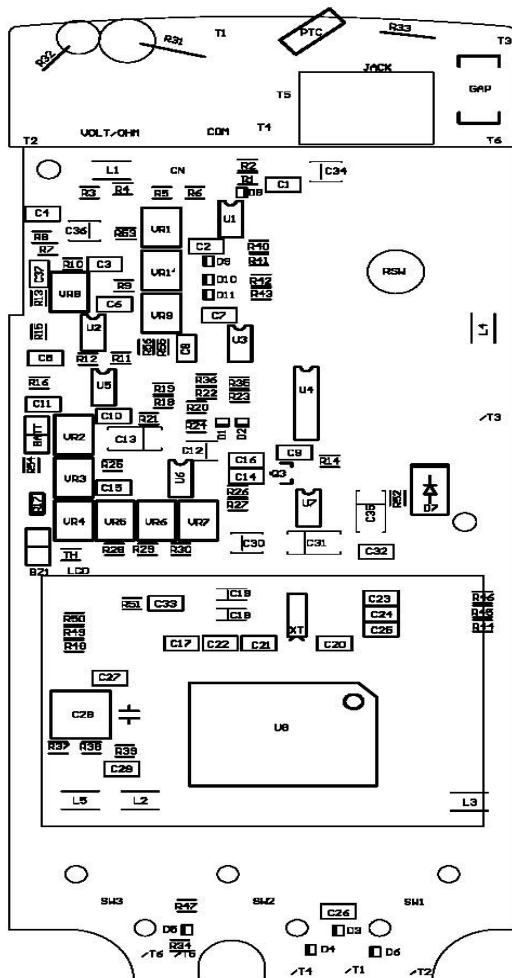

Figure 3
**Calibration Procedure (refer to Figure 3 PCB Layout)**